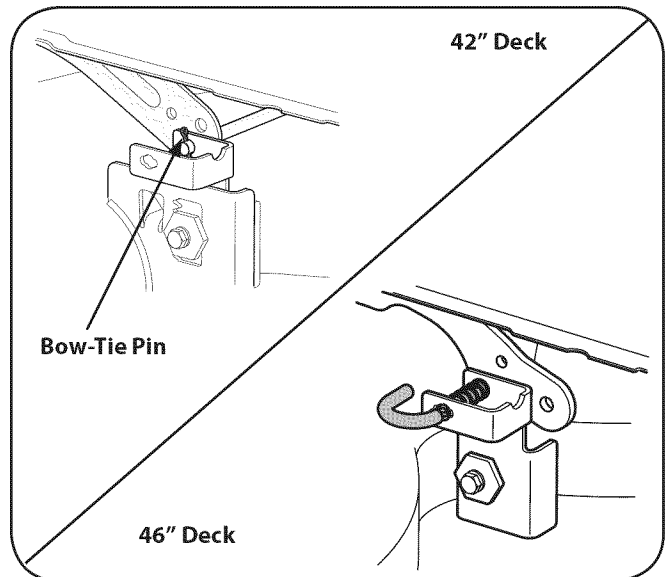

Figure 7-2
5. **On 42" Decks:** Looking at the cutting deck from the left side of the tractor, locate the bow-tie pin that secures the deck support rod on the rear left side of the deck. See upper half of Fig. 7-2. Remove the bow-tie pin that secures the deck support rod, and carefully remove the deck support from the deck lift arm.